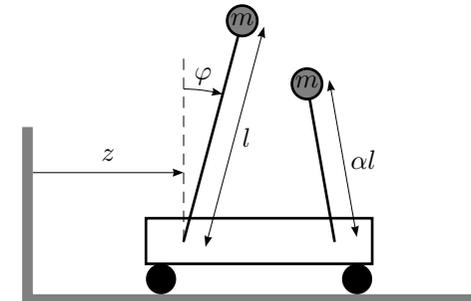

Figure 8.13a
a) Linearize the system to the left in Figure 8.13a around $\varphi = 0$ and put the constants l , m , and g to 1 and write the equations in the form $\dot{x} = Ax + Bu$.